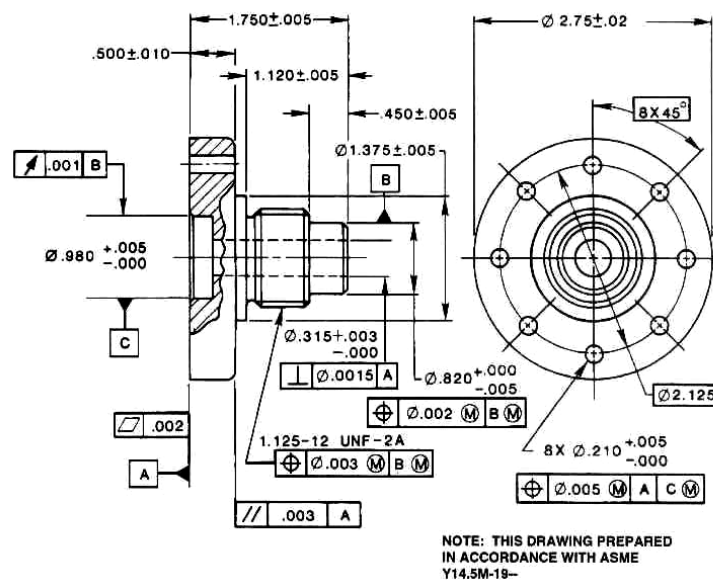

Figure 1
2. Interpret and write the specification of all the feature control frames in the drawing as shown in figure 1 and draw their respective tolerance zones.